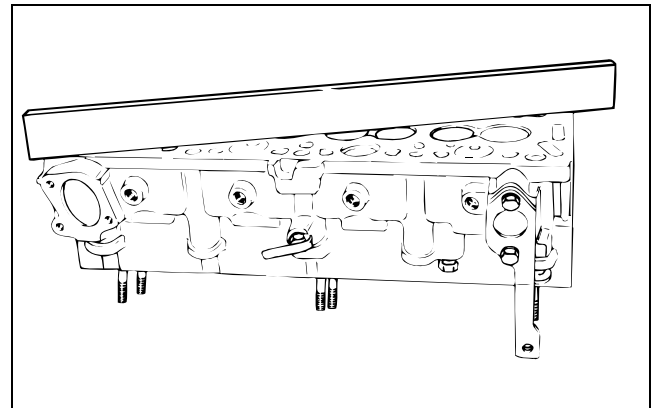

Figure 67
6. Check the gasket face for bow (flatness). Check corner to corner and side to side (Fig. 67).